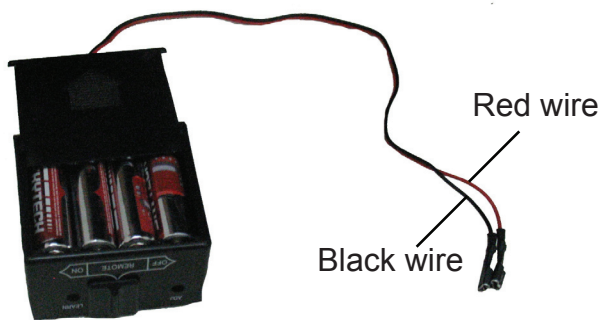

Figure 36
1. Remove battery cover along the direction shown on the battery box, and install four 1.5V AA-size batteries into the box. (See Figure 36)